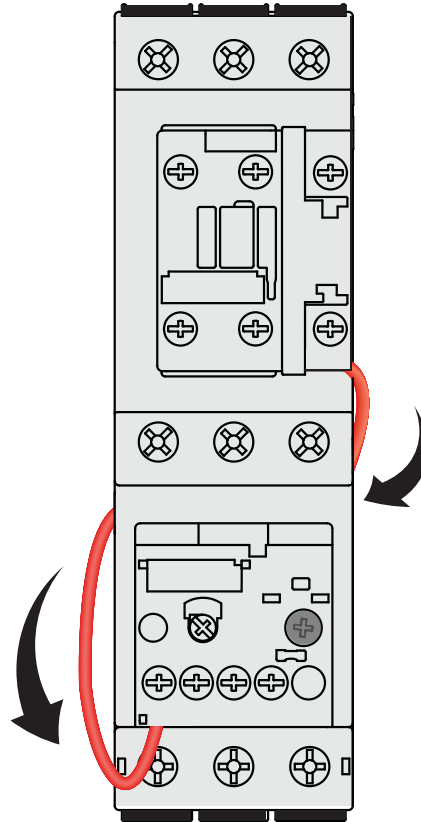

Figure 2
- b. A jumper wire should already be connected to terminal A2 on the contactor. Route the loose end of the wire between the contactor and OLR as shown in Figure 2.